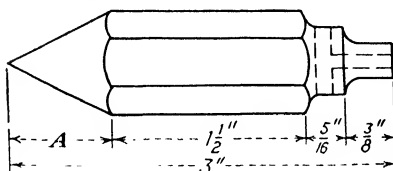

Fig. 27.—Plumb bob.
4. What is the length of  $A$  in Fig. 27?